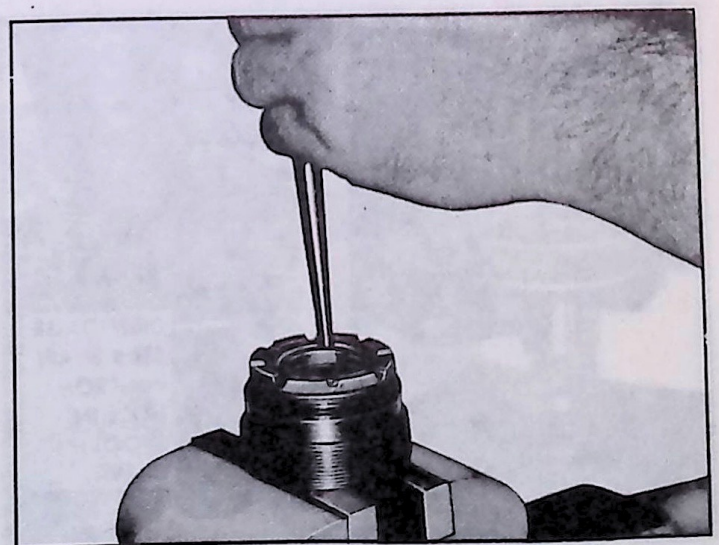

Fig. 42-Installing Retainer
5. Install a new bearing retainer on the adjuster plug by carefully tapping on the flat surface of the retainer (fig. 42).